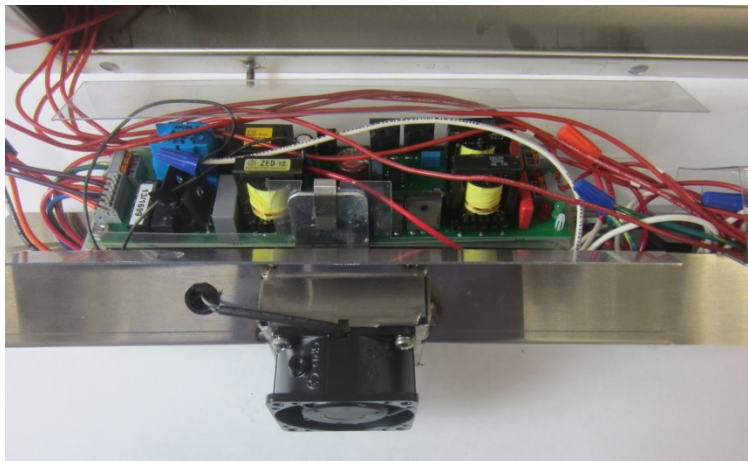

Figure 6-23-2
9. Pull the Ballast away from the Raceway and rotate so the Ballast is facing up (Refer to Figure 6-23-2).